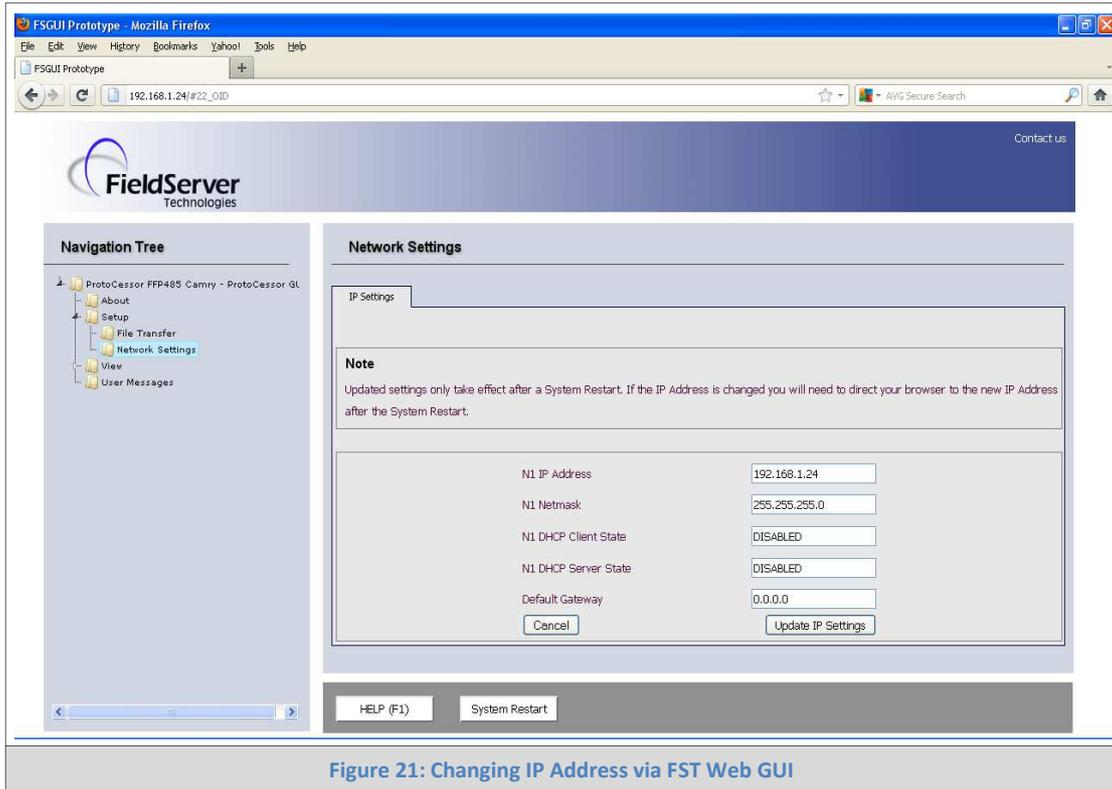

Figure 21: Changing IP Address via FST Web GUI
- From the GUI main landing, click on Diagnostics and Debugging to get to the Utilities section of the GUI (to change IP Address and other capabilities). (See Figure 21)